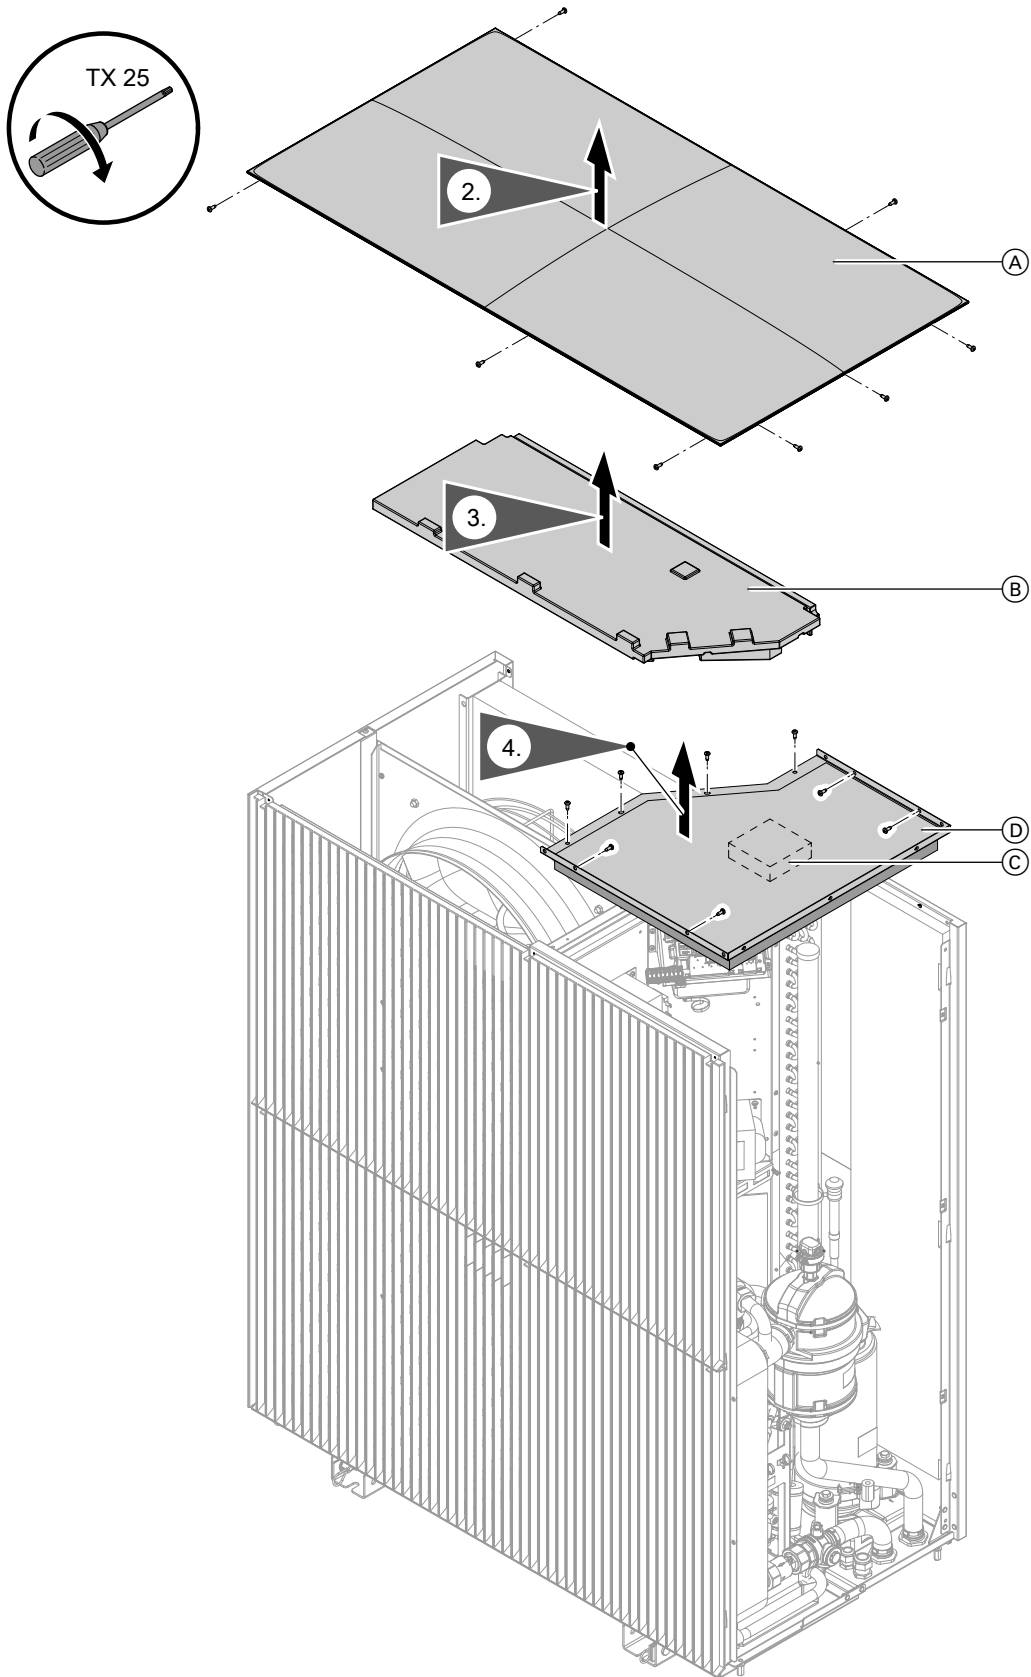

Fig. 102
7. Remove top cover: See Fig. 102.
2. Remove top cover: See Fig. 102.